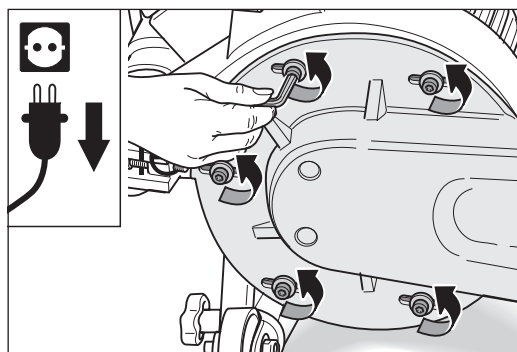

Fig. 57 Undoing the five fastening screws of the attachment. Do not unscrew the screws all the way out!
- 5 Use the proper Allen key to undo all five screws with which the attachment is installed on the fan housing (Fig. 57). Do not unscrew this screw all the way out!